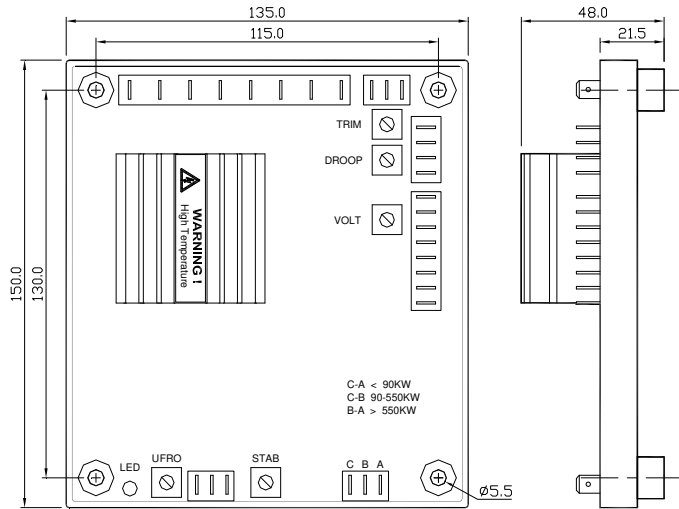

Figure 1 Outline Drawing UNITS : mm
1. AVR can be mounted directly on the engine, genset, switchgear, control panel, or any position that will not affect operation. For dimension reference, please see Figure 1.